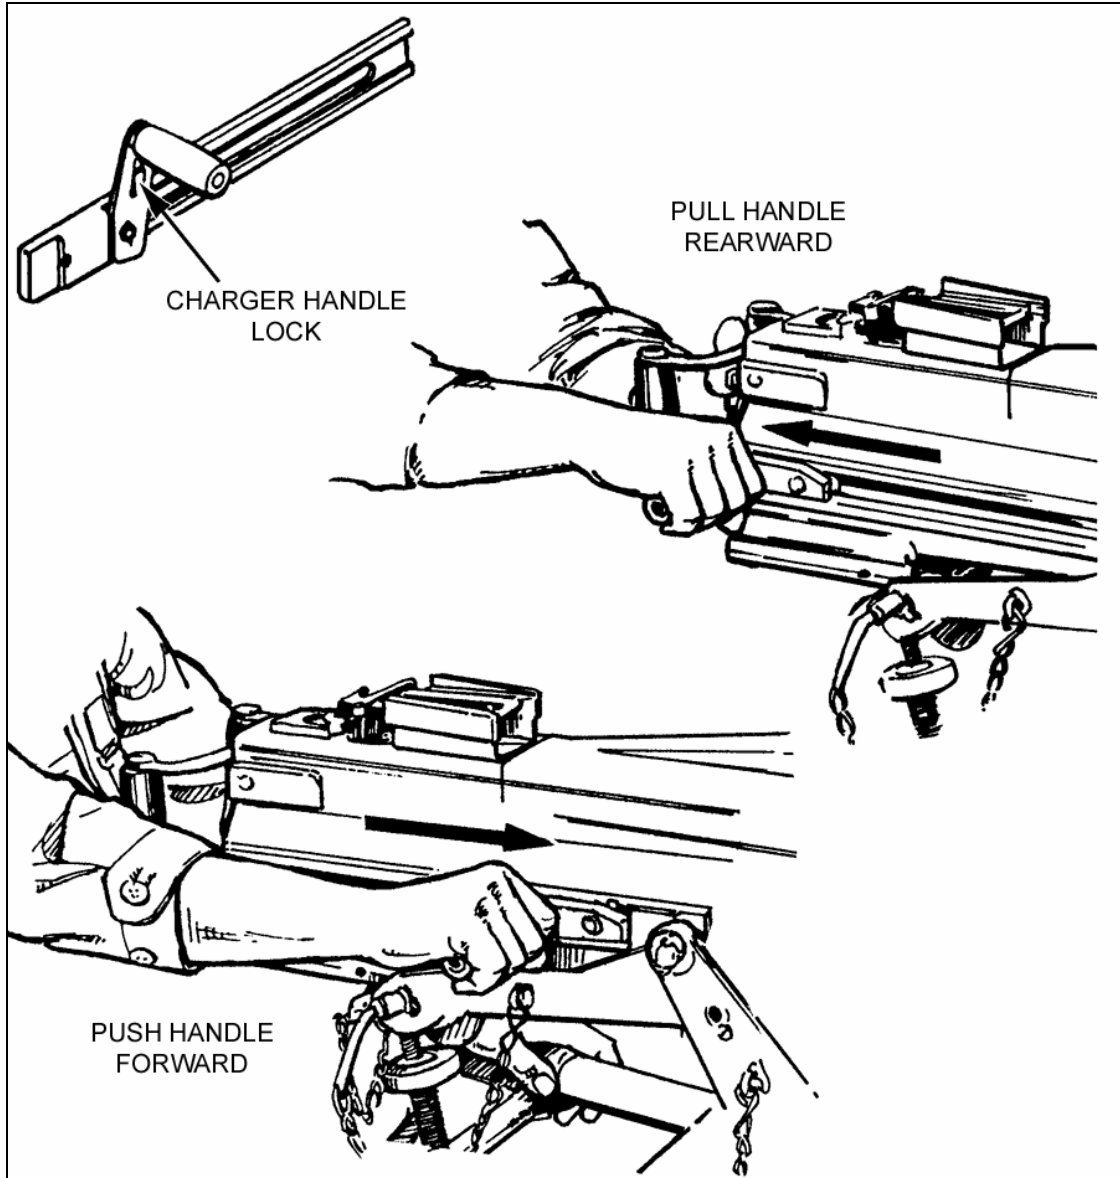
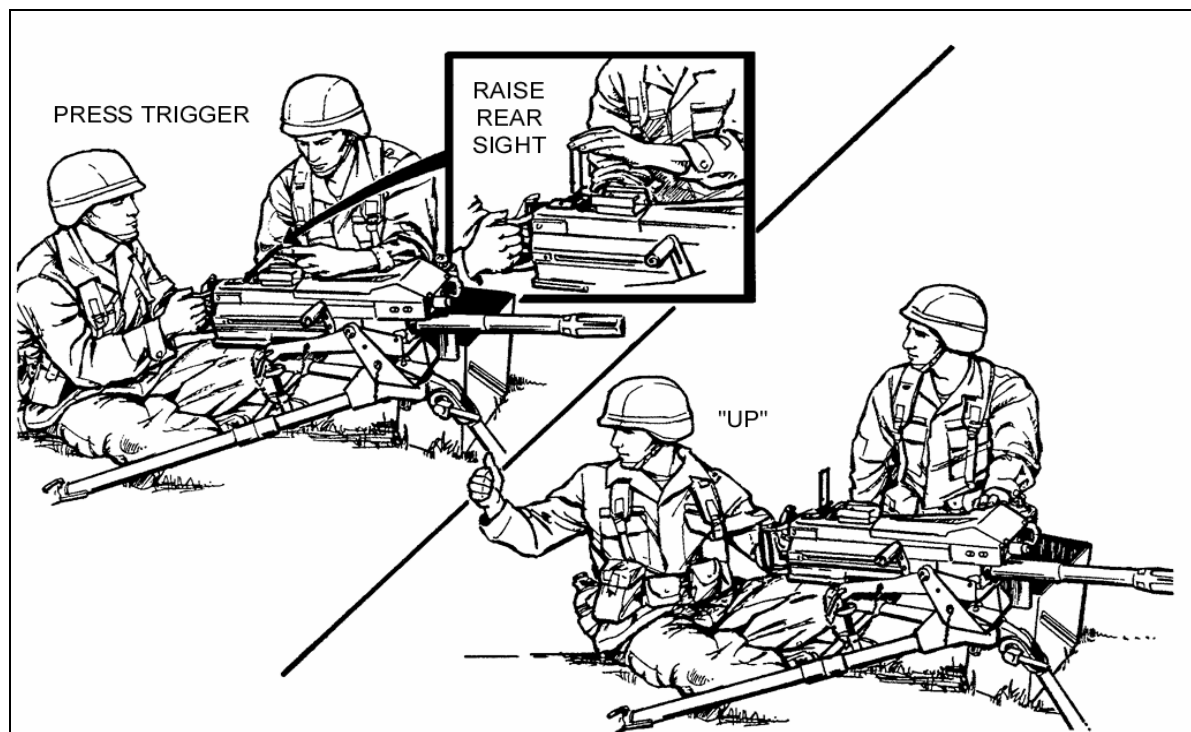

Figure H-12. Gunner charging the MK 19.
Figure H-13. Raising the rear sight.
e. The gunner closes the top cover and charges the weapon (Figure H-12). The gunner presses the trigger, which places the lead round in the bolt extractor. He charges the weapon a second time, forcing the lead round from the bolt extractors into the bolt fingers. The weapon is ready to fire. When the assistant gunner raises the rear sight, the gunner calls "Up" (Figure H-13).